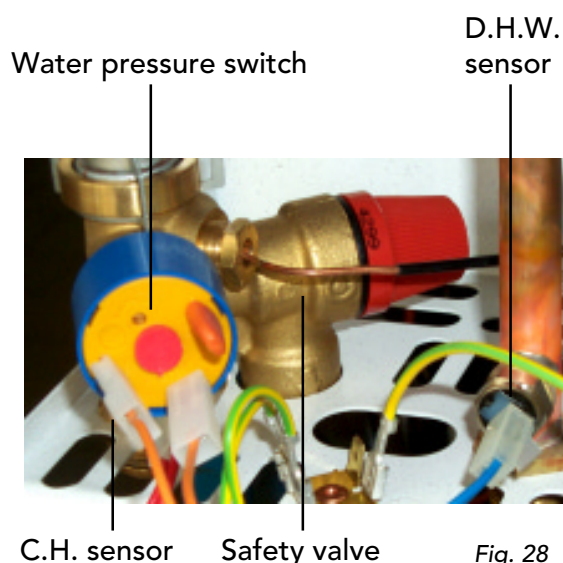

Fig. 28
(fig. 28)
- Identify the sensor from figure 28
7.07 Water Pressure Switch (fig. 28)
- Identify the switch from figure 28
7.08 Safety Valve (fig. 28)
- Identify valve from fig. 28